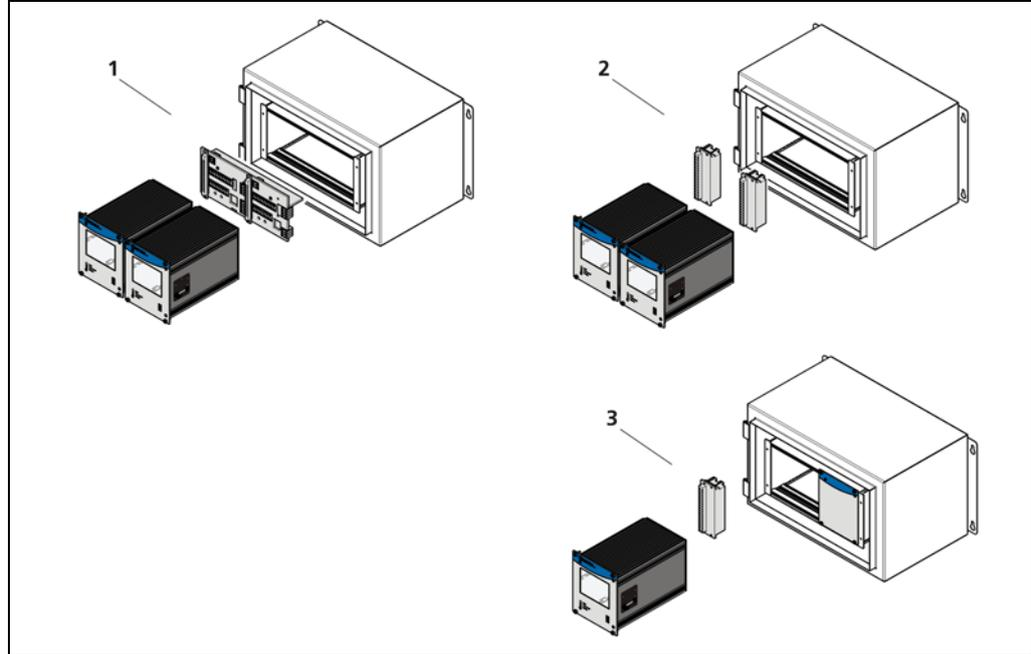
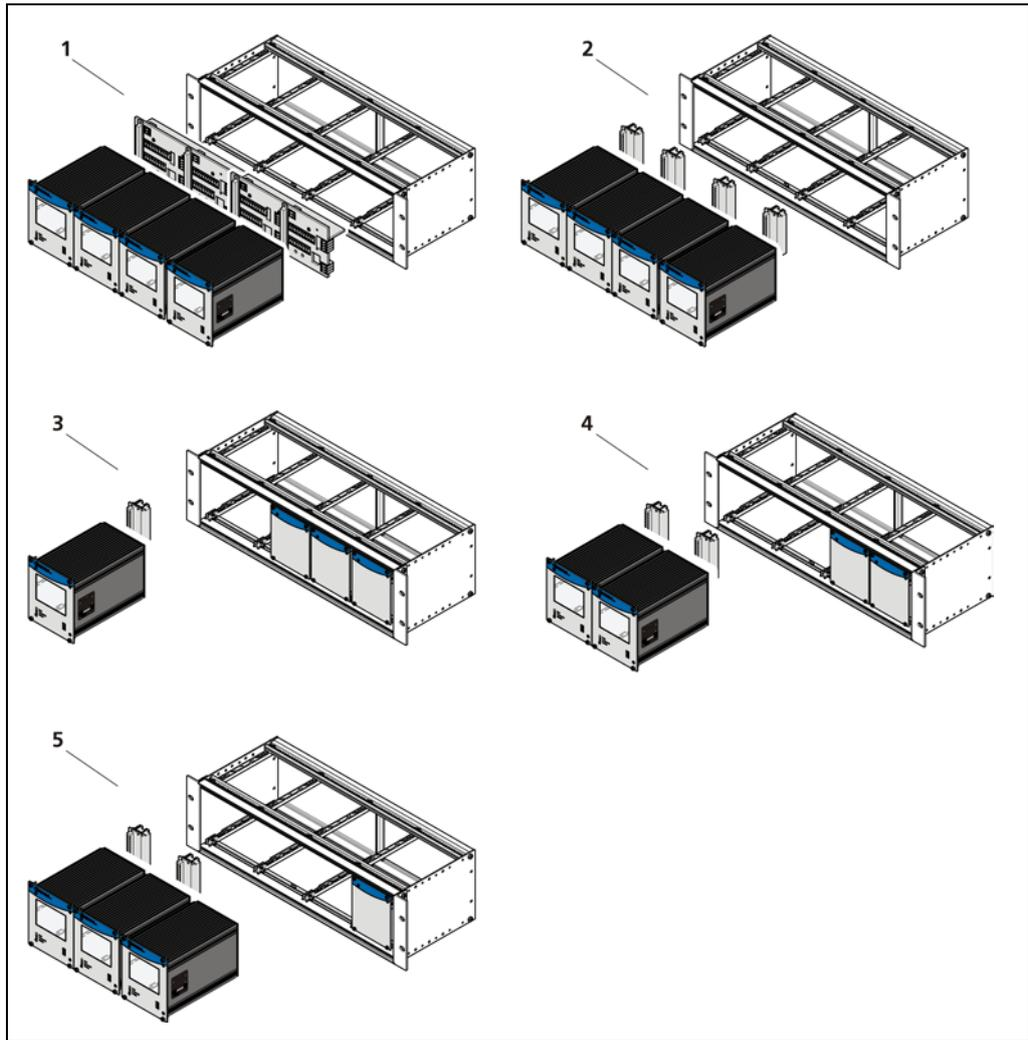

Fig. 8 Installation variants wall housing
Fig. 9 Installation variants 19" subrack with terminal panel
The EVU can be installed either in wall housings (Fig. 8) or 19" subracks (Fig. 9).
2 EVUs (Fig. 8, item 2)	2 clamp blocks
1 EVU (Fig. 8, item 3)	1 clamp block
4 EVUs (Fig. 9, item 2)	4 clamp blocks
1 EVUs (Fig. 9, item 3)	1 clamp block
2 EVUs (Fig. 9, item 4)	2 clamp blocks
3 EVUs (Fig. 9, item 5)	3 clamp blocks